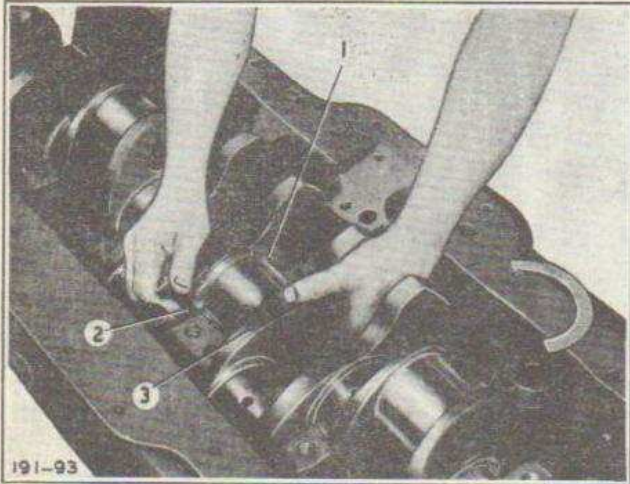

Fig. 68—View Showing Removal of Upper Halves of Thrust Washers
### Removing Thrust Washers (See Figure 68)
Referring to Figure 68, remove halves of thrust washers (1) in crankcase by pushing them around with a thin implement (2), such as a steel measuring scale, while slowly turning crankshaft (3) until halves are turned sufficiently to afford a finger grip.